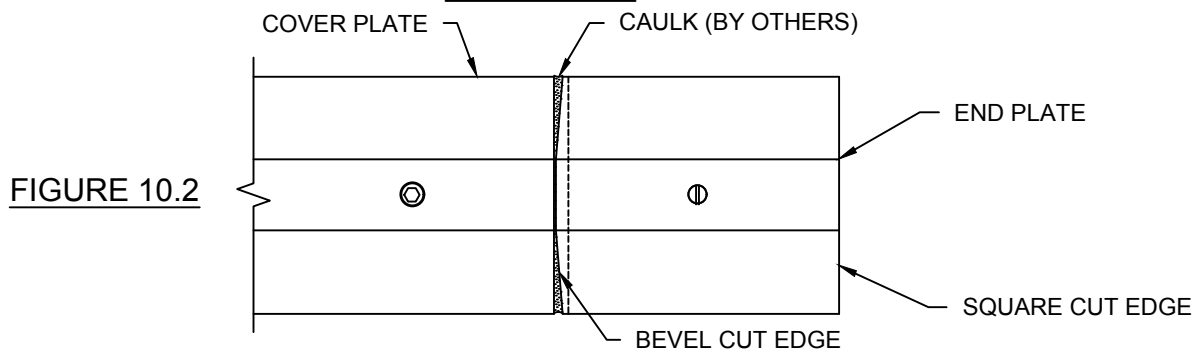

FIGURE 10.2
**Note:** Due to the bevel cut on the lead edge of the End Plate, there will be a tapered gap between the End Plate and the adjacent Plate. This gap should be filled with a silicone caulk by others. (See Figure 10.2)